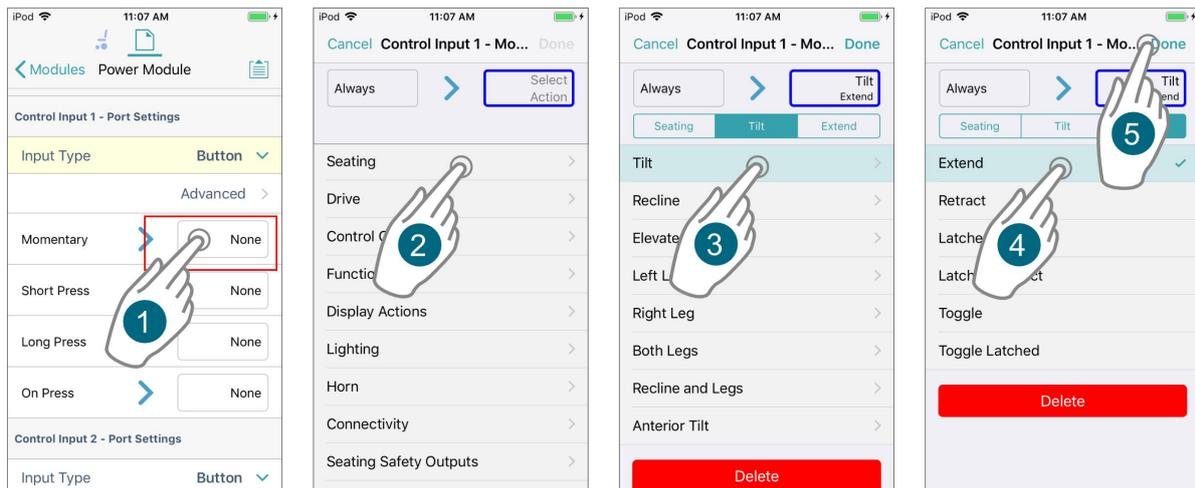

Figure 91: Assigning an output where no rules exist for slot
1. Open the output list by tapping on the right-hand side of the control IO slot (Figure 91 ①).
2. From the output list, select an output, drilling down through the options as they are presented (Figure 91 ② to ④).
3. Tap on **Done** (Figure 91 ⑤). A summary of the rule is displayed in the control IO slot.